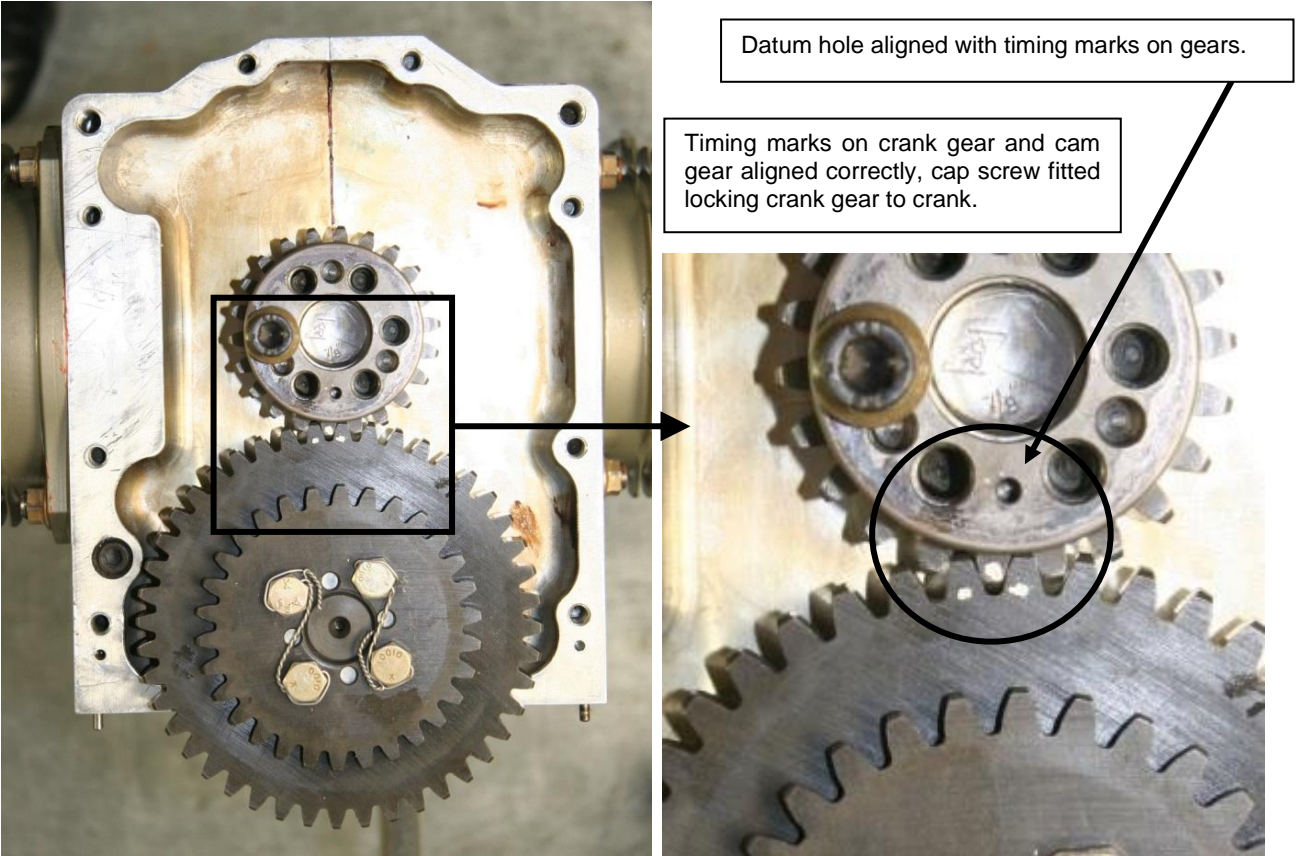

Figure 169 – Setting Cam Timing
The bead should be applied **22mm** down from the flywheel attachment face (see Figure 169).
- The camshaft drive gear can now be fitted to the end of the crank as shown in Figure 169 – so that the tooth on the crankshaft gear with the timing mark is between the two teeth of the cam gear with timing marks.
- Start with the engine positioned at TDC (i.e. piston #1 is fully extended out and the timing marks on the crank gear and camshaft timing gear are meshed as shown in Figure 169)